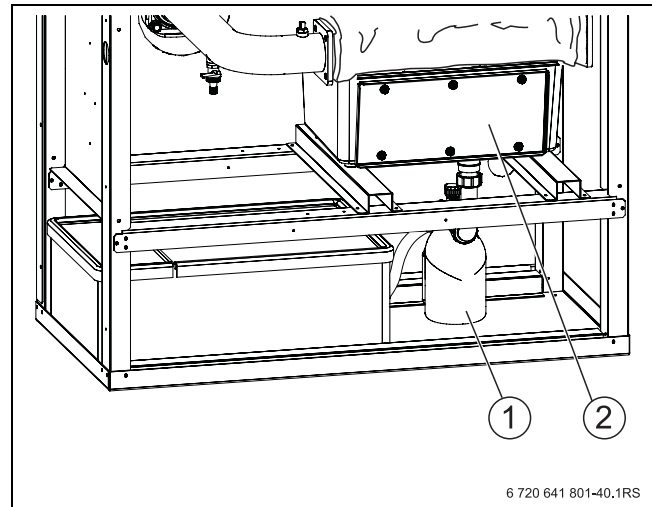

Fig. 56 Removing the siphon
- ▶ Remove siphon (→ Fig. 56, [1]) from the condensate pan outlet (→ Fig. 56, [2]) and place a bucket or pan below.